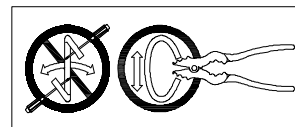

Fig.3
CONNECTING THE WIRES (Fig.3)
14. Connect the electrical wire as shown in figure 3, making sure that all wire connectors are secured. If your outlet has a ground wire (green or bare copper), connect the fixtures ground wire to it. If the junction box has no ground wire, attach the bare copper fixture wire to the green ground screw (Screw: #8-32*3/8"L) on the crossbar. Tuck the wire connections neatly into the ceiling junction box.